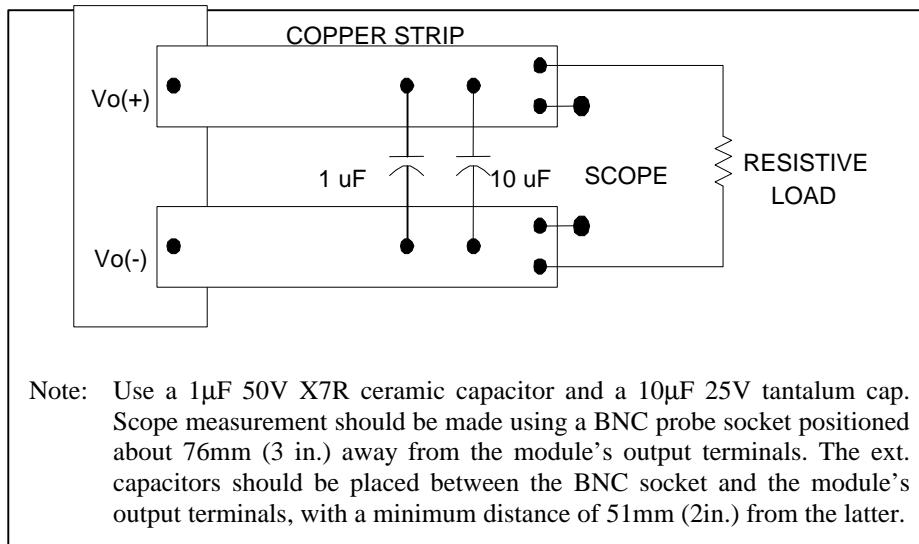

Figure 2. Peak to Peak Output Noise Measurement Setup.
4. See Figure 2 for Ripple and Noise test measurement setup.